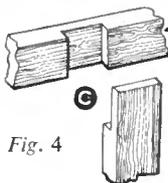

Fig. 4
As a substitute for the conventional shelves, a top and bottom shelf of the shape at (D) (Fig. 4) is suggested. This is an improvement in both positions, as it allows articles on the shelf above or below